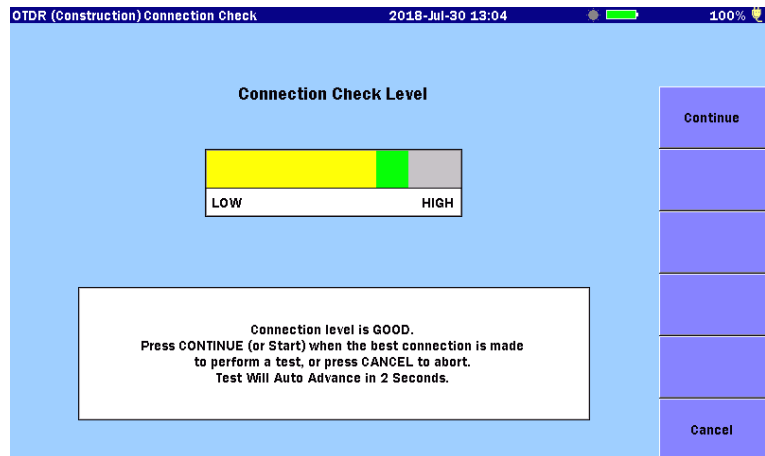

Figure 6.5-1 Connection Check Screen
- When Connection Check is On, the Connection Check Screen is displayed (Figure 6.5-1). Touch **Continue** after making sure that the connection state is optimal.